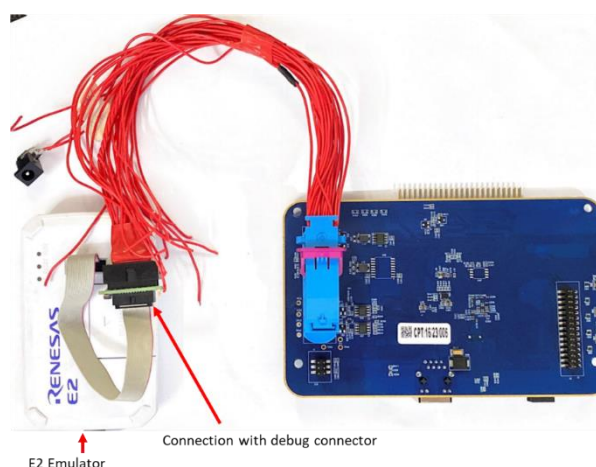

Figure 4-2 Connection with E2 emulator
1. Make the connections as shown in Figure 4-2. Power the board using power lines one harness.